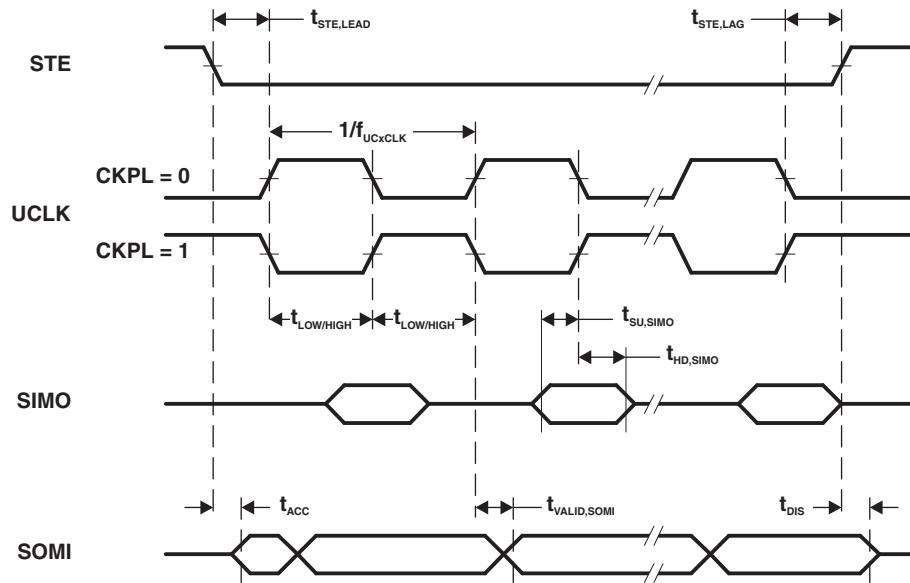

Figure 5-11. SPI Slave Mode, CKPH = 0
(2) Specifies the time to drive the next valid data to the SOMI output after the output changing UCLK clock edge. Refer to the timing diagrams in Figure 5-11 and Figure 5-12.
(3) Specifies how long data on the SOMI output is valid after the output changing UCLK clock edge. Refer to the timing diagrams in Figure 5-11 and Figure 5-12.